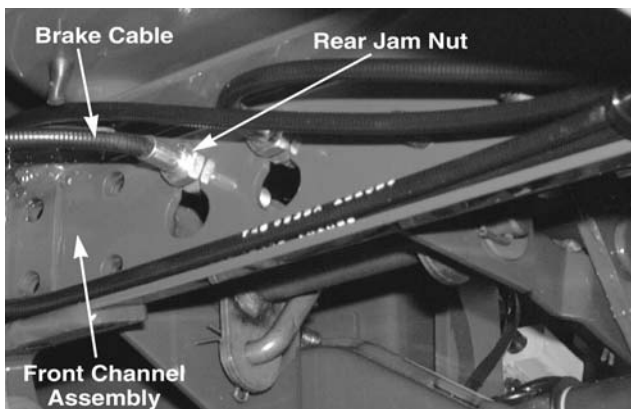

Figure 8-7.
2. Follow the brake cable forward to the front channel assembly. See Figure 8-7.
6. Locate and loosen the brake cable adjustment jam nuts using two 1/2" wrenches. Refer to Figures 8-7 and 8-8.
9. Tighten the rear jam nut (clockwise) one complete rotation at a time using a 1/2" wrench. Between rotation, try to roll the rider. Refer to Figure 8-7.